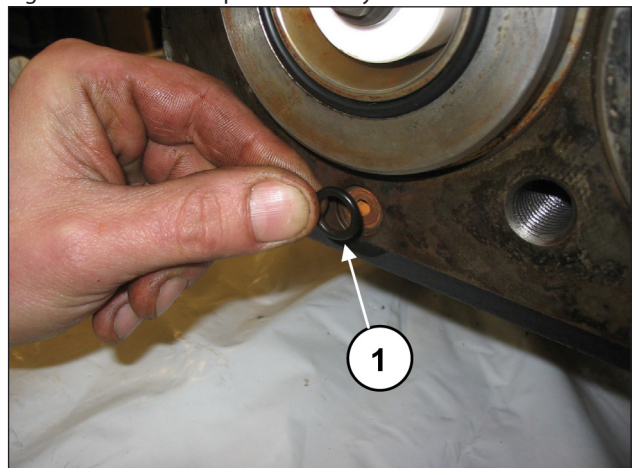

Fig. 183
Mount the recirculation hole O-ring (pos. ①, Fig. 183).